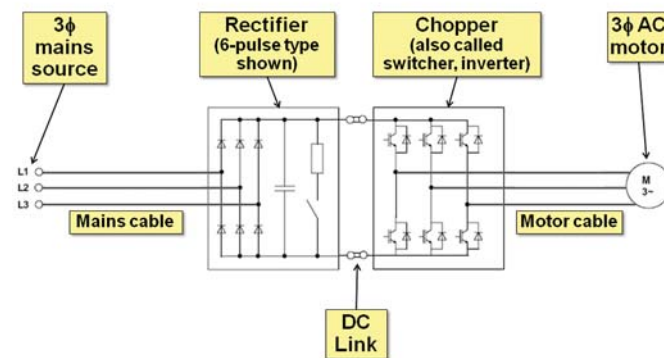

Figure 7.2-1: Example of a variable speed/frequency 3 ϕ motor drive (VSD, VFD)
Figures 7.2-1 through 7.2-4 use the example of an AC-AC inverter variable-speed motor drive with a three-phase (3 ϕ) mains supply and a 3 ϕ motor, copied from a figure in a REO (UK) Ltd booklet on suppressing motor drives.
Figure 7.2-1 shows the basics of the system, which – like most high-power VSDs – places its rectifier in a different metal box from that of its chopper, with the connection between them called the DC Link. DC Links can be cables or busbars of any length, although long DC Links are a bad idea for EMC, as discussed later in this section. VSDs or other types of AC input power converters or inverters rated under 10kW usually combine their rectifier, DC Link and switcher or chopper in one box.
This section (7.3) looks into some filtering techniques. Instead of the complex circuit used as the example in section 7.2, with their complex noise current paths, this section uses figures based on the simple block diagram shown in Figure 7.2-1, and shows the DM and CM current loops as very simple shapes, using blue for DM and red for CM as in section 7.2.